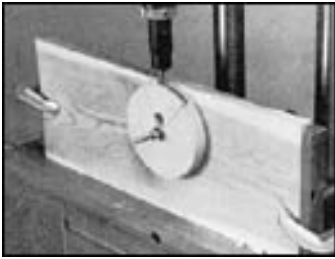

Figure 1
2. Drill a 1/4-inch hole in the centers of parts A through E. Mark the part letters on pieces B through E. Now, make the simple clamping jig shown in Figure 1 from a 3/4-inch x 8-inch piece of stock and a 1/4-inch-20 x 3-inch pivot bolt.
3. Rout the slide lever slot on disc C by first marking off the 2-3/4-inch arc on the edge of the disc. Tilt your MARK V’s table 90-degrees so its surface is parallel with the machine’s way tubes, then clamp the jig to the table surface as shown in Figure 1 . . . so the point of your drill bit is in exact left-right alignment with the centerline of your pivot bolt.